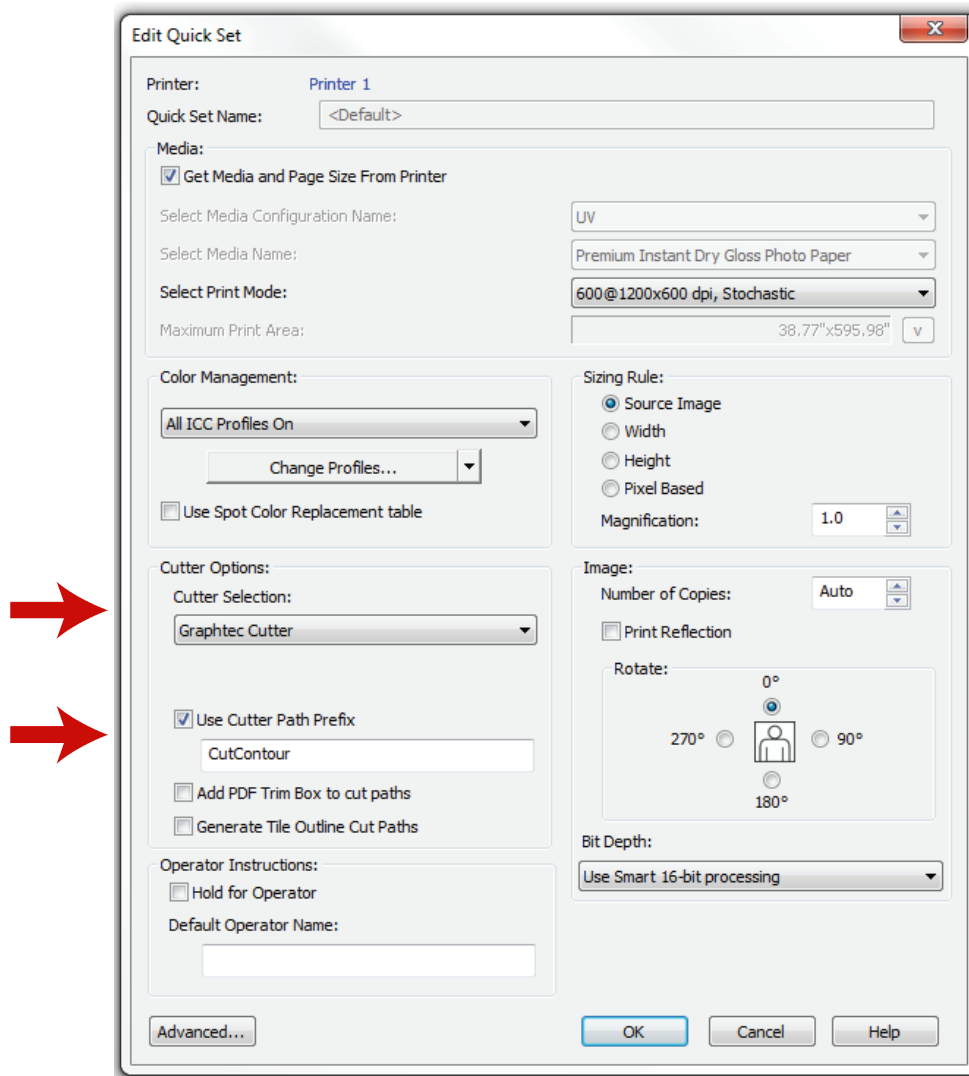

Figure 5
3. Check the box next to *Use Cutter Path Prefix*. The text box displays the name of the spot color assigned to your cut data in your design application. Also, select the correct marks for your cutter under the *Cutter Selection* drop-down (Figure 5).